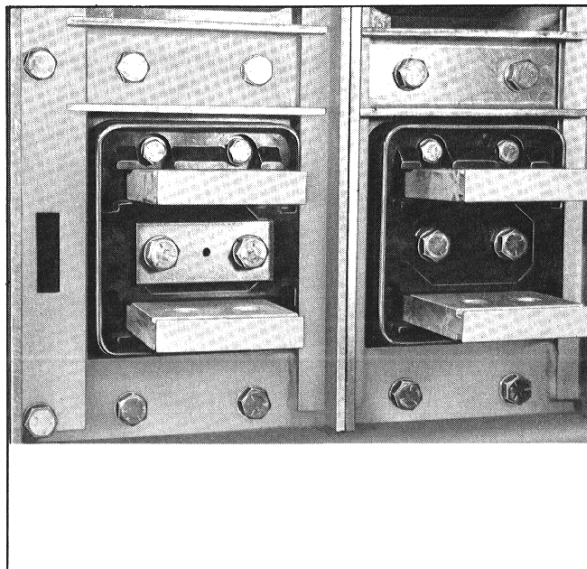
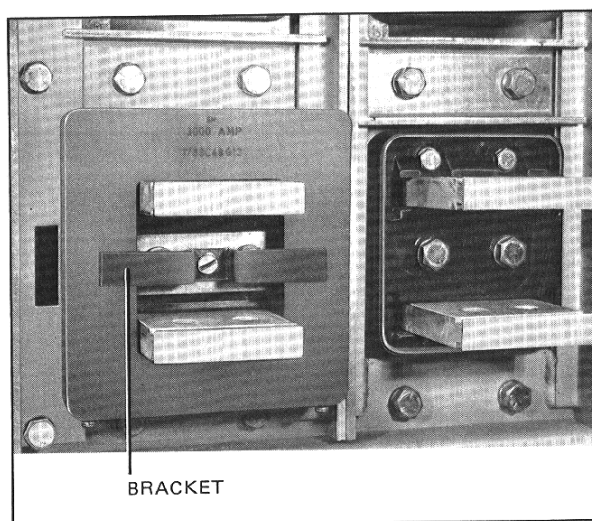

Fig. 34 Sensor Mounting Detail DB-75/100
Fig. 35 *Sensor Mounted in Place with Bracket*
8. Remove the finger clusters from the three lower studs, remove the two (2) .50-13 x 1.25 bolts located directly in the middle of the studs. Place the sensor mounting bracket with the nipples facing the two holes from where the bolts were removed and secure with two (2) .50-13 x 2.25 bolts and washers, (Fig. 34). Slide the sensors onto the studs, do not force the sensors on, due to close tolerances the sensor may be inched from side to side to get them properly mounted. Once the sensor is up against the back plate secure it with the mounting bracket using the .25-20 x .50 panhead screw, (Fig. 35). The sensor must be mounted with the end marked with the letters "SH" on top. These sensors have a special shield to minimize the effect of stray flux.